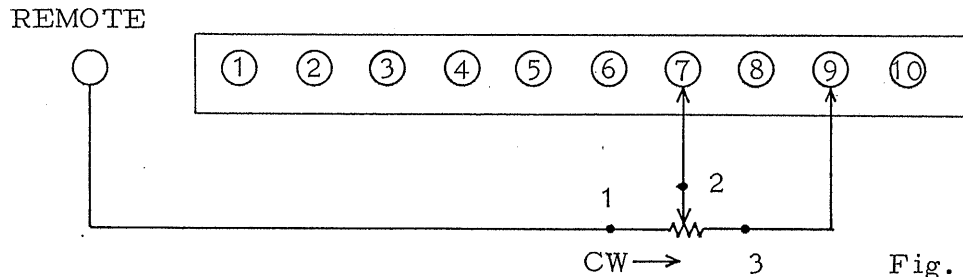

Fig. 13
- 1) Connect as shown in Fig. 13, a variable resistor whose value is $1.5\text{ k}\Omega$.